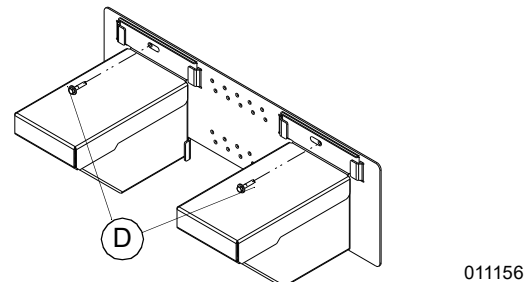

Figure 4-5. Install Top Fasteners Through Stands and Foot Bracket
5. See Figure 4-5. Use flat washers and fasteners (D) to secure top of foot bracket and stands.